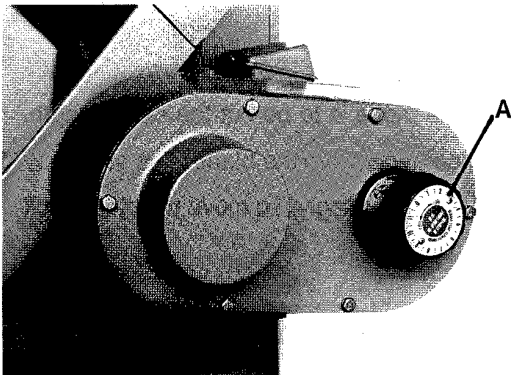

FIG.9
4. The variation of speed is controlled by the control knob (A) Fig.9, speed goes faster when turn it counterclockwise.